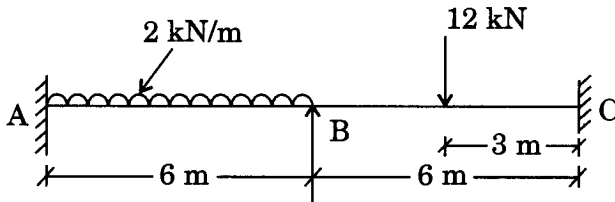

Figure 1
3. Analyse the prismatic continuous beam ABC shown below (Figure 1). Draw the bending moment and shear force diagrams. 14